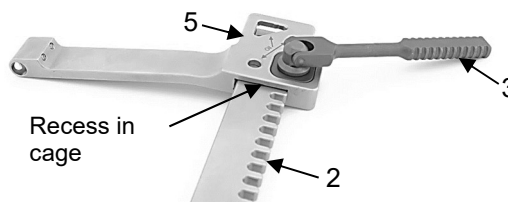

Fig. 16
Insert the toothed rack (2) into the recess of the cage (5) until the pinion of the drive lever (3) engages in the toothed rack (2) (Fig. 16).